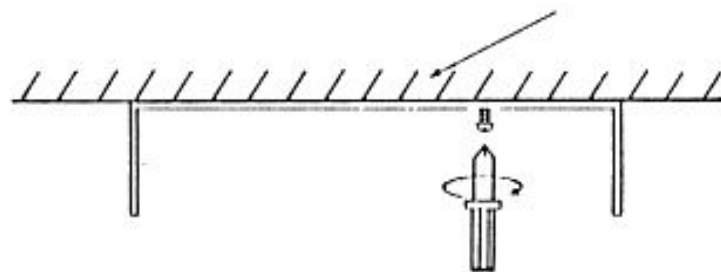

Figure 4
6. For setting the amp under the dash board panel of automobile with an attached mobile mounting bracket(option), please refer to Figure 4 and 5.